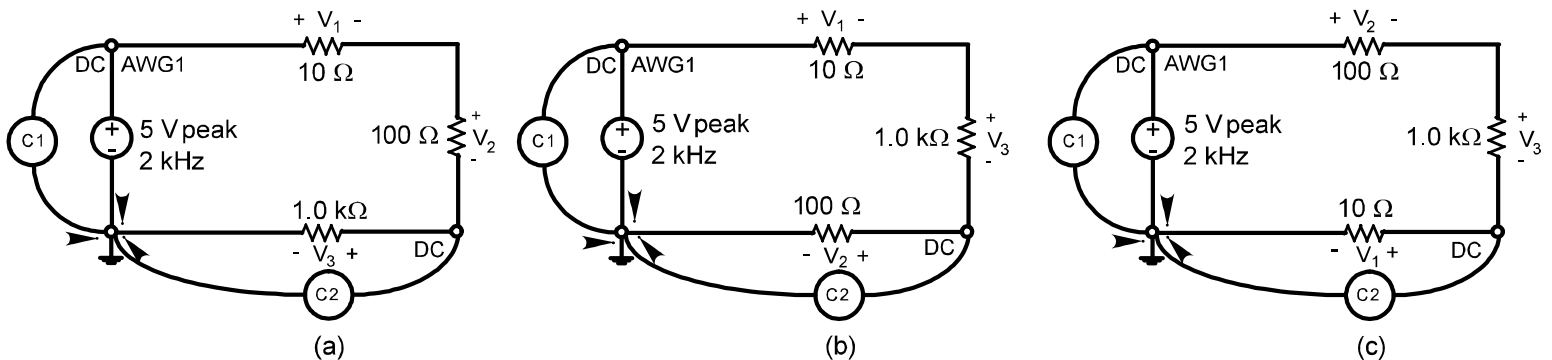

Figure 2 - Circuit Diagram for *Voltage Measurement*
- 2.3 Adjust AWG1 to give an output of 5 V peak, sine wave at 2 kHz, zero volts dc off-set. Connect the resistors across AWG1 and ground as shown in figure 2. Display AWG1 on C1 of the oscilloscope by connecting C1 DC input to AWG1 and linking the “arrow” (▶) symbols; note that the arrow means “ground”, so all the arrows are connected together. Display the voltage across each resistor on C2 of the oscilloscope by connecting C2 DC input and the arrow across the resistor in question ($1\ \text{k}\Omega$ in figure 2a).